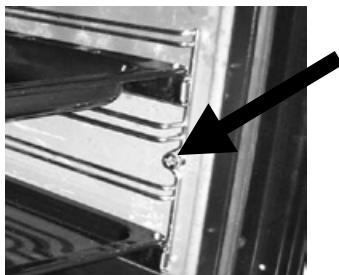

Fig. 6
2. Unscrew the crews on the internal sides of the oven (Fig. 6) and remove the side racks.